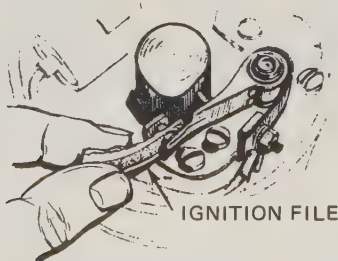

FIG. 26-15 The breaker points can be cleaned with a contact file.
**Cleaning Points** Once the contact points are exposed by removal of the flywheel and the dust cover (where present), examine them for oxidation or pits. If they are only slightly burned or pitted, they can be cleaned with an ignition file, as shown in Fig. 26-15. It is not necessary to file the points until they are smooth. Just remove the worst of the high spots. Blow out all dust after cleaning the contacts. Pull a strip of clean bond paper between the points (with points closed) to remove the last traces of filings.